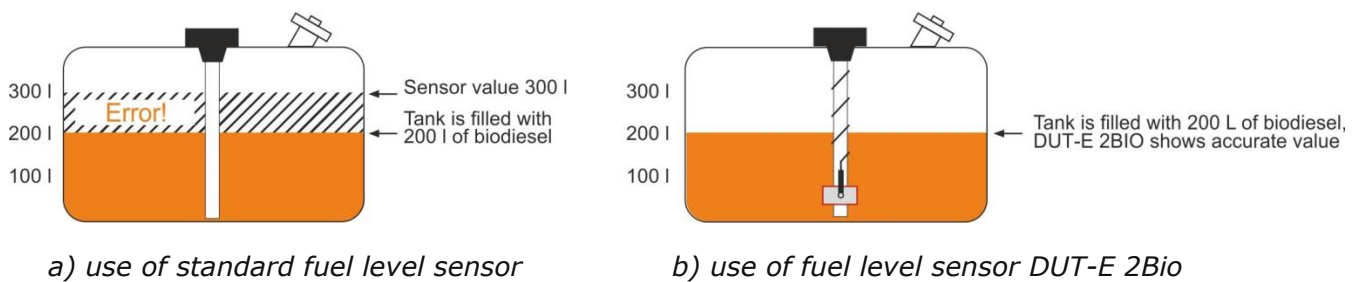

Figure 3 — Illustration of specifics of fuel volume measurement in tank of Vehicle when switching from regular diesel to biodiesel
**Example:** When fuel is changed from diesel to biodiesel standard fuel level sensor shows significantly higher fuel volume in the tank (up to 30 %) (see figure 3 a). Fuel level sensor DUT-E 2Bio shows real fuel volume in the tank even if the fuel in the tank is changed from diesel to biodiesel (see figure 3 b).
**1) DUT-E 2Bio** is used as an additional sensor for fuel monitoring within Telematics systems on Vehicles which are periodically refueled with different types/sorts of fuel (see figure 3).